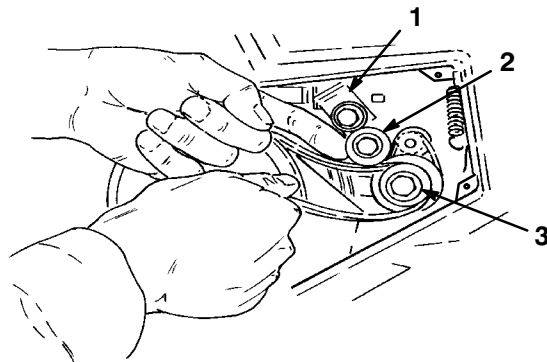
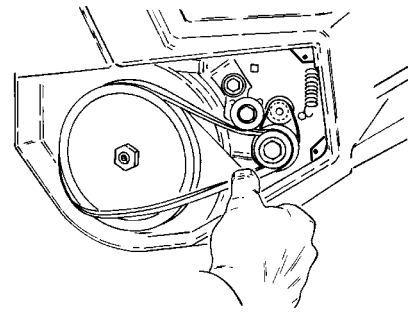

Figure 20
Figure 21
4. Slip the new belt over the small pulley. Lift up the idler arm and slip the belt under the idler pulley (Fig. 20). Rotate the rotor with your left hand while sliding the belt onto the large pulley with your right hand (Fig. 21).
10. Slip the large belt over the small pulley (Fig. 21). Refer to step 4 through 6 of *Replacing the Large Belt* on page 11.